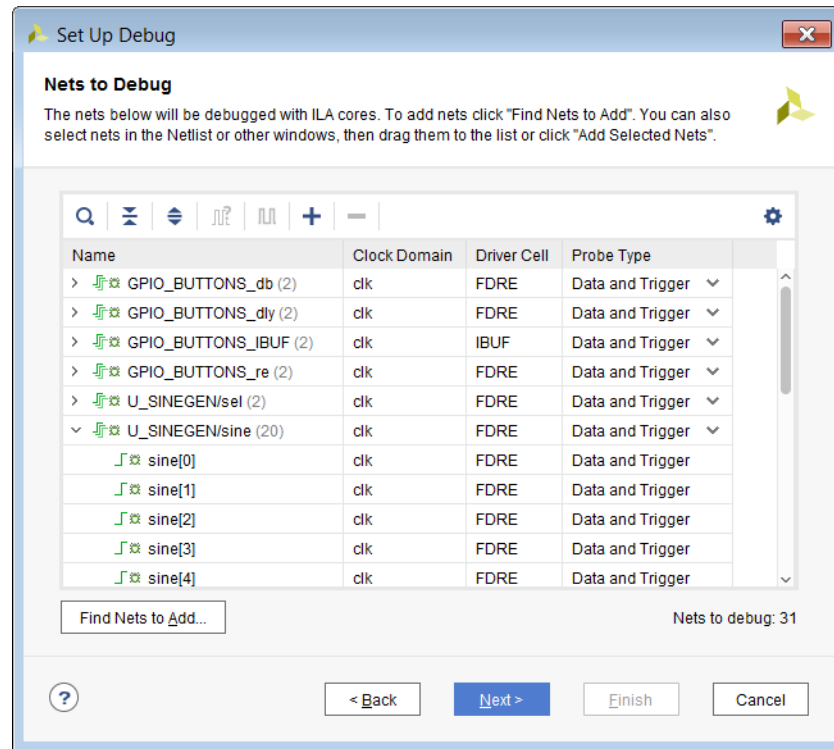

Figure 9-2: Set Up Debug Wizard
3. Click **Next** to get to the **Specify Nets to Debug** panel (see Figure 9-2).